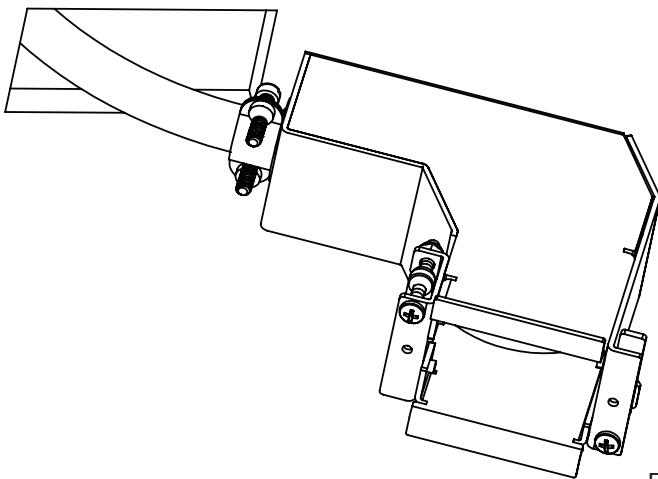

Fig. 3
12. Feed the Minibox into the wall opening at a slight angle (Fig. 3) until the **side tabs** are pressed against the mounting surface. (Fig. 3)